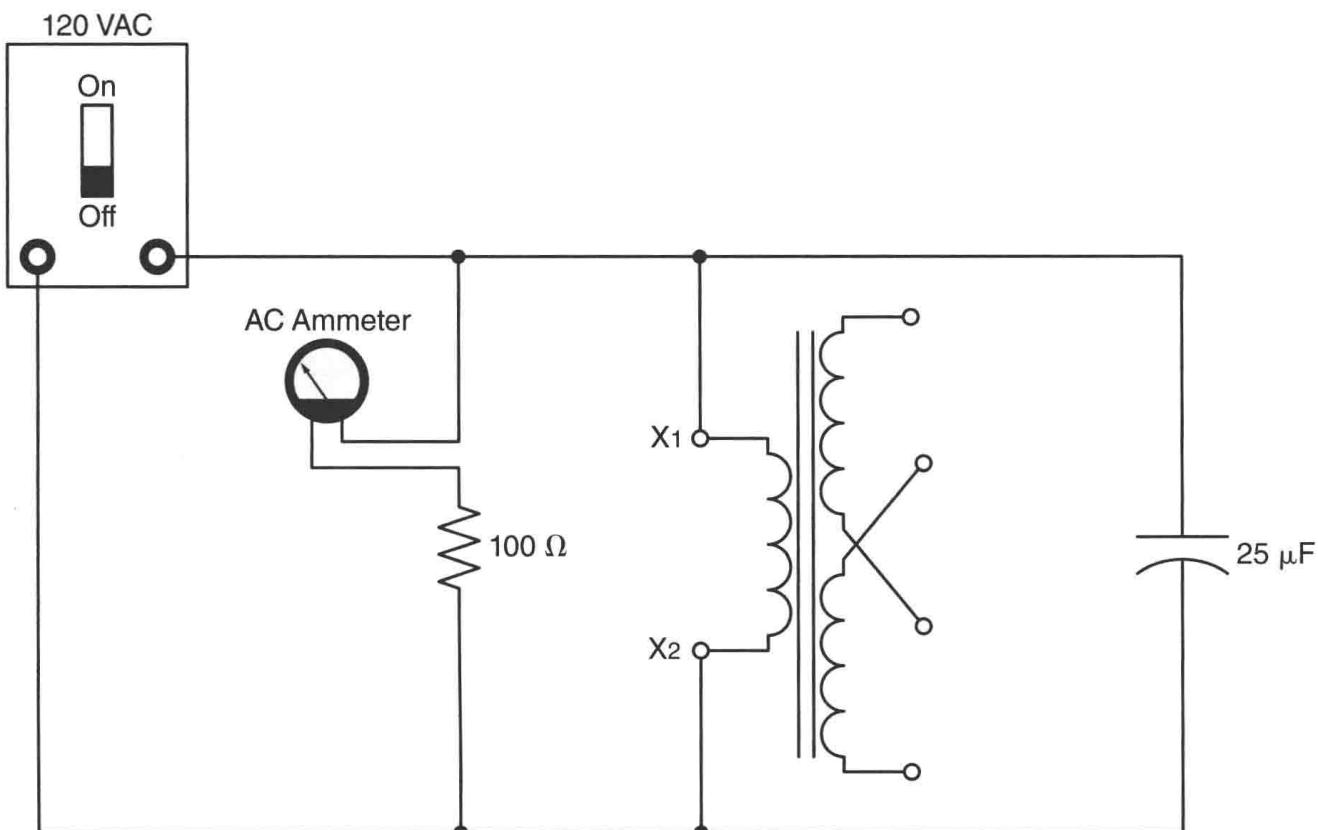

Figure 17-4 Measuring current through the resistive branch.
5. **Turn off the power supply** and reconnect the circuit to measure the current through the resistive branch as shown in Figure 17-4.